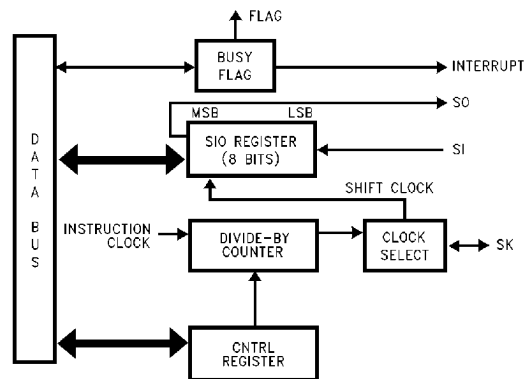

FIGURE 33. MICROWIRE/PLUS Block Diagram
MICROWIRE/PLUS is a serial synchronous communications interface. The MICROWIRE/PLUS capability enables the device to interface with any of National Semiconductor's MICROWIRE peripherals (i.e., A/D converters, display drivers, E2PROMs etc.) and with other microcontrollers which support the MICROWIRE interface. It consists of an 8-bit serial shift register (SIO) with serial data input (SI), serial data output (SO) and serial shift clock (SK). *Figure 33* shows a block diagram of the MICROWIRE/PLUS logic.